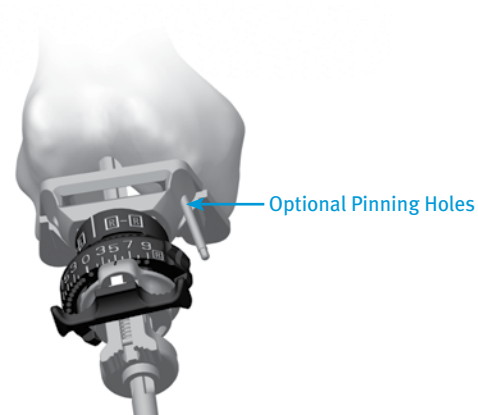

Fig. 125
*If the epicondyles are visible, the epicondylar axis may be used as a guide in setting the orientation of the Femoral Valgus Alignment Guide. This does not set the rotation of the femoral component, but keeps the distal cut oriented to the final component rotation. If desired, the guide can be pinned to provide rotational stability (**Fig. 125**).*